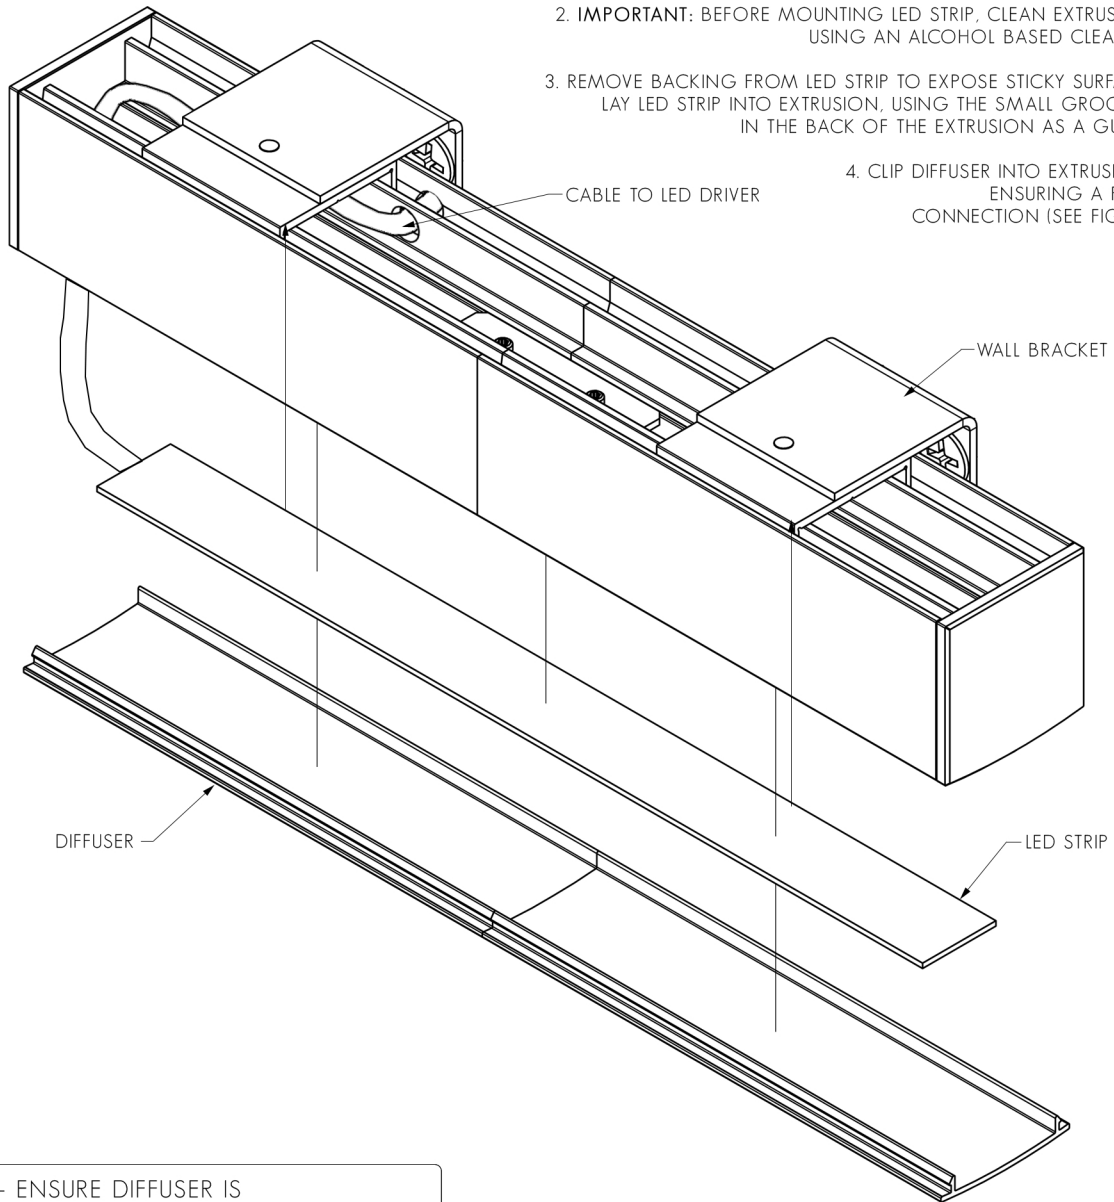

FIG. 3 - ENSURE DIFFUSER IS MOUNTED SECURELY
4. CLIP DIFFUSER INTO EXTRUSION, ENSURING A FIRM CONNECTION (SEE FIG. 3).